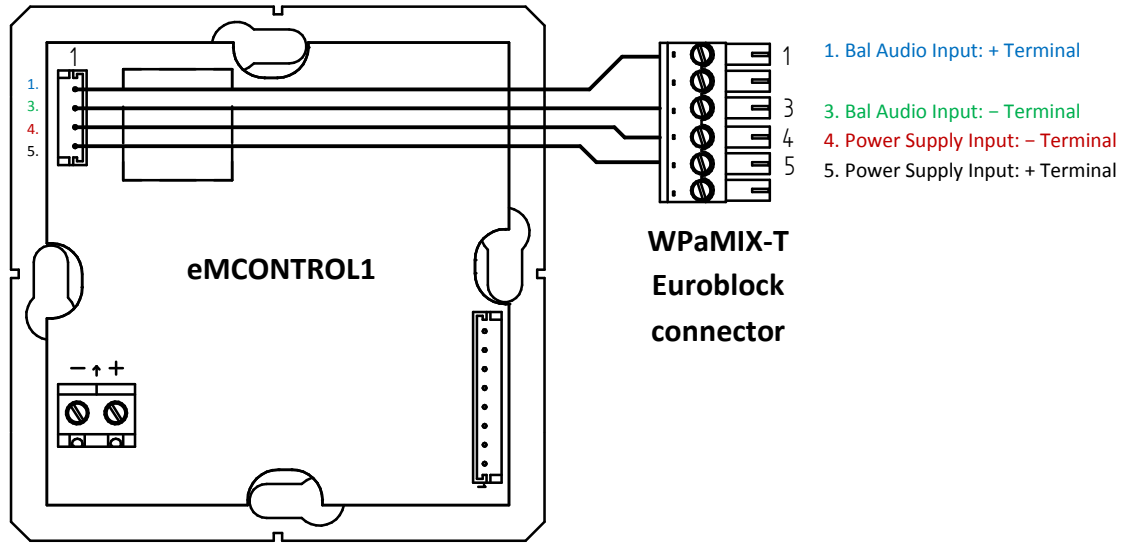

Figure 1: eMCONTROL1 + WPaMIX-T connection diagram
4. Interconnect both devices (eMCONTROL1 and WPaMIX-T) with the supplied cable. See Figure 1.